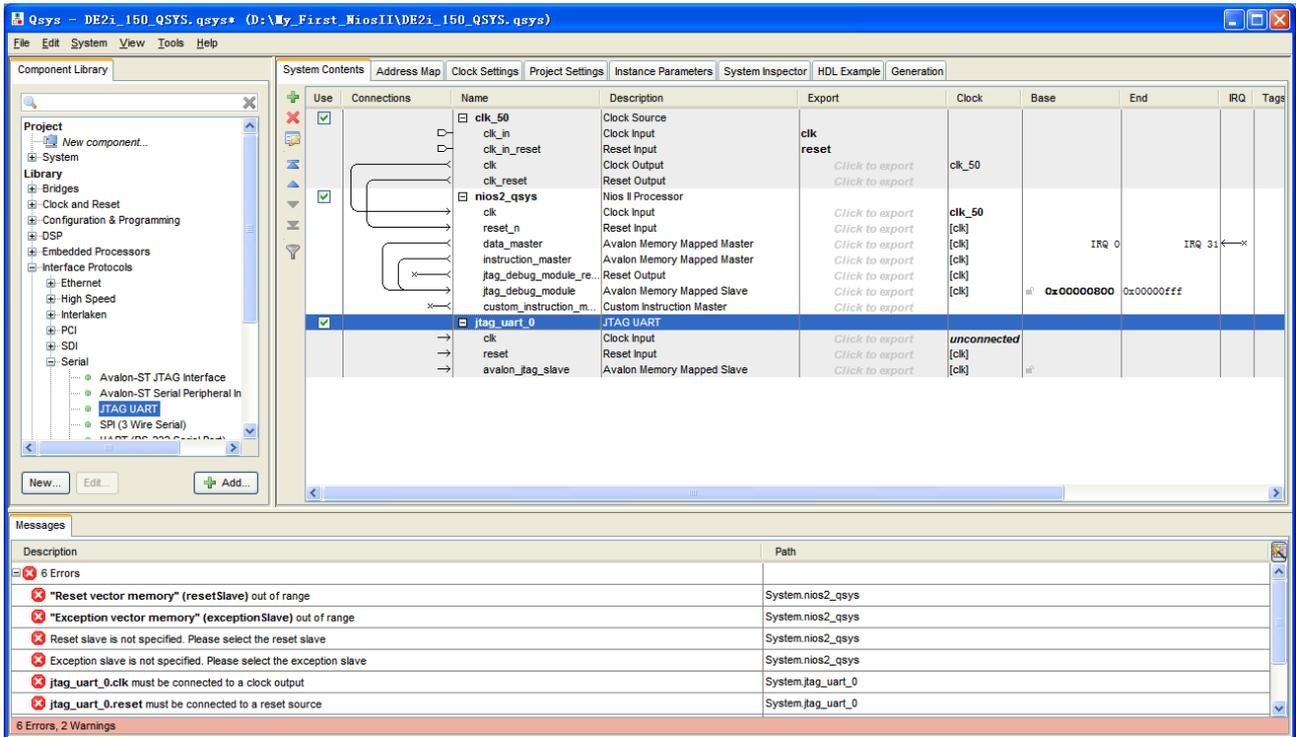

Figure 1-23 JTAG UART
13. Click **Finish** to close the wizard and return to the window as shown in Figure 1-23.